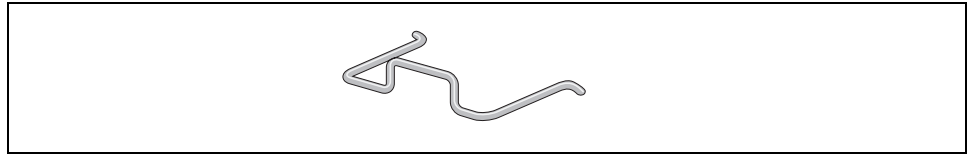

Figure 16. Power Cord Retaining Clip
1. Locate the power cord retaining clip, shown in Figure 16.